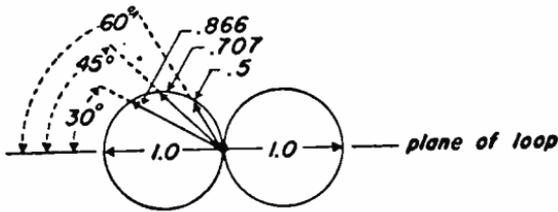

Fig. 3.
If equation (2) be plotted on rectilinear coordinates for all values of  $\theta$  between 0 and 360 degrees, the resulting curve of response voltage is the familiar figure-of-eight or "loop characteristic" shown in Figure 3.
From a consideration of Figure 3 it will be seen that if the loop be rotated  $\pm 30$  degrees from that position giving maximum signal, the strength of signal in the indicator (head phones, meter, or whatever is used) will vary only from 100 per cent to 86.6 per cent, a change which is hardly perceptible in the head phones, and certainly the indication is too broad to give a good "bearing" regardless of the type of signal reproducer or indicator used. It is for this reason that the null point or point of zero reception is used for taking bearings since turning the loop a degree or so either side of the null produces a large percentage change in the received signal. Thus when the signal is at a null point the loop lane is broadside or perpendicular to the wave front of the incoming signal. A pointer attached to the loop-rotating shaft will refer the bearing to a reference line such as the "keel line" or "lubber line" of a ship or to true north in cases where a gyro-compass repeater card is the direction-finder scale.